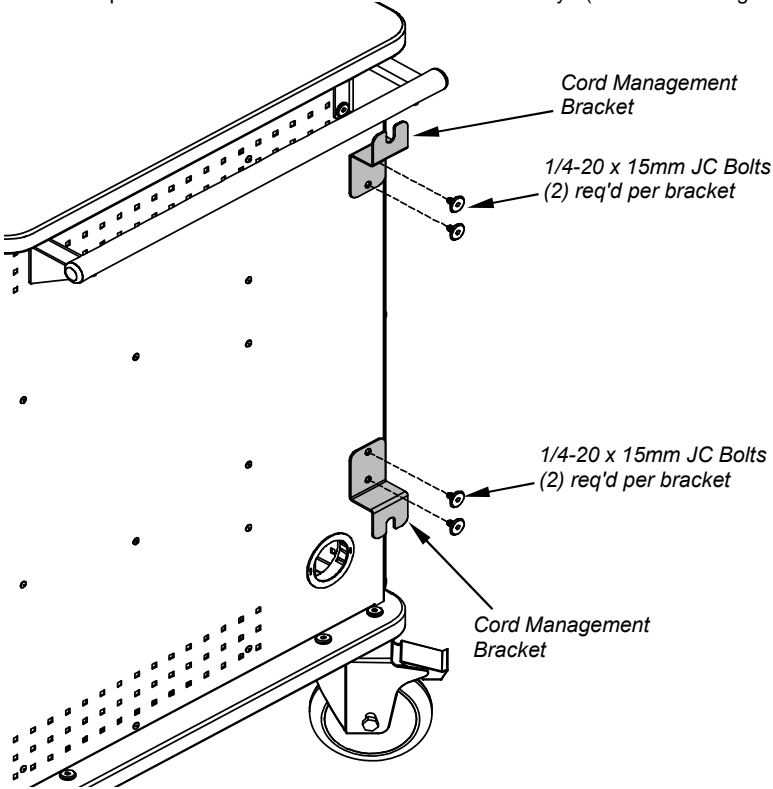

Figure 2A
- Attach the cord management brackets to the side panels (left and right-side) with 1/4-20 x 15mm JC bolts as shown in **Figure 2A** and tighten securely. Be sure the brackets are facing away from each other as shown.